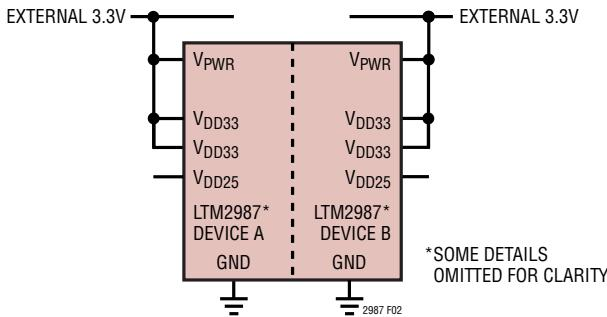

Figure 2. Powering LTM2987 from External 3.3V Supply
Alternatively, power from an external 3.3V supply may be applied directly to the V\_DD33 pins using a voltage between 3.13V and 3.47V. Tie V\_PWR to the V\_DD33 pins. See Figure 2. In this case, V\_DD33(A) and V\_DD33(B) may be tied together. All functionality is available when using this alternate power method. The higher voltages needed for the V\_OUT\_EN[0:3] pins and bias for the V\_SENSE pins are charge pumped from V\_DD33.